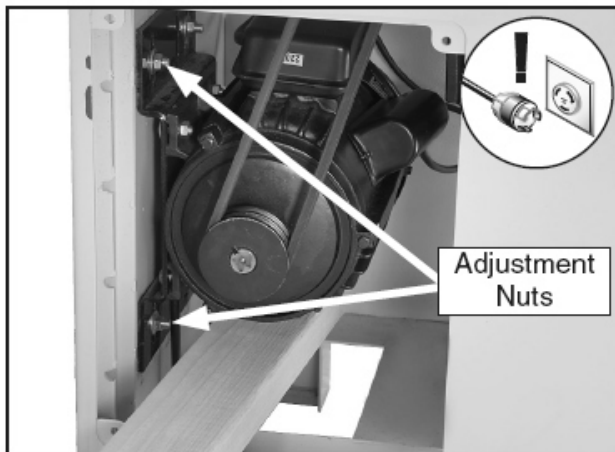

Figure 26. Removing V-belt tension.
4. Using a 14mm wrench, loosen the four adjustment nuts and raise the motor (see **Figure 26**) to remove V-belt tension.